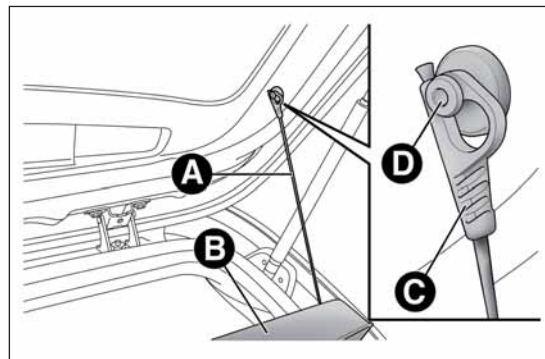

fig. 64
- ☐ free the ends of the two parcel shelf B mounting links A fig. 64 by removing the eyelets C from the mounting pins;